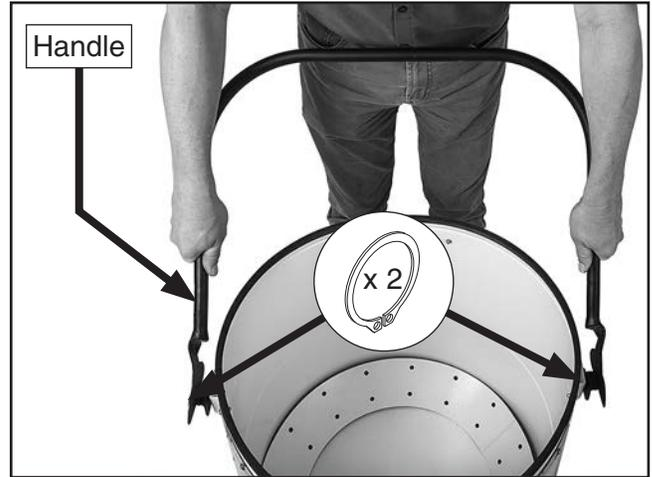

Figure 39. Installing collection drum handle.
41. Attach handle to collection drum and secure with (2) 13mm external retaining rings (see **Figure 39**).